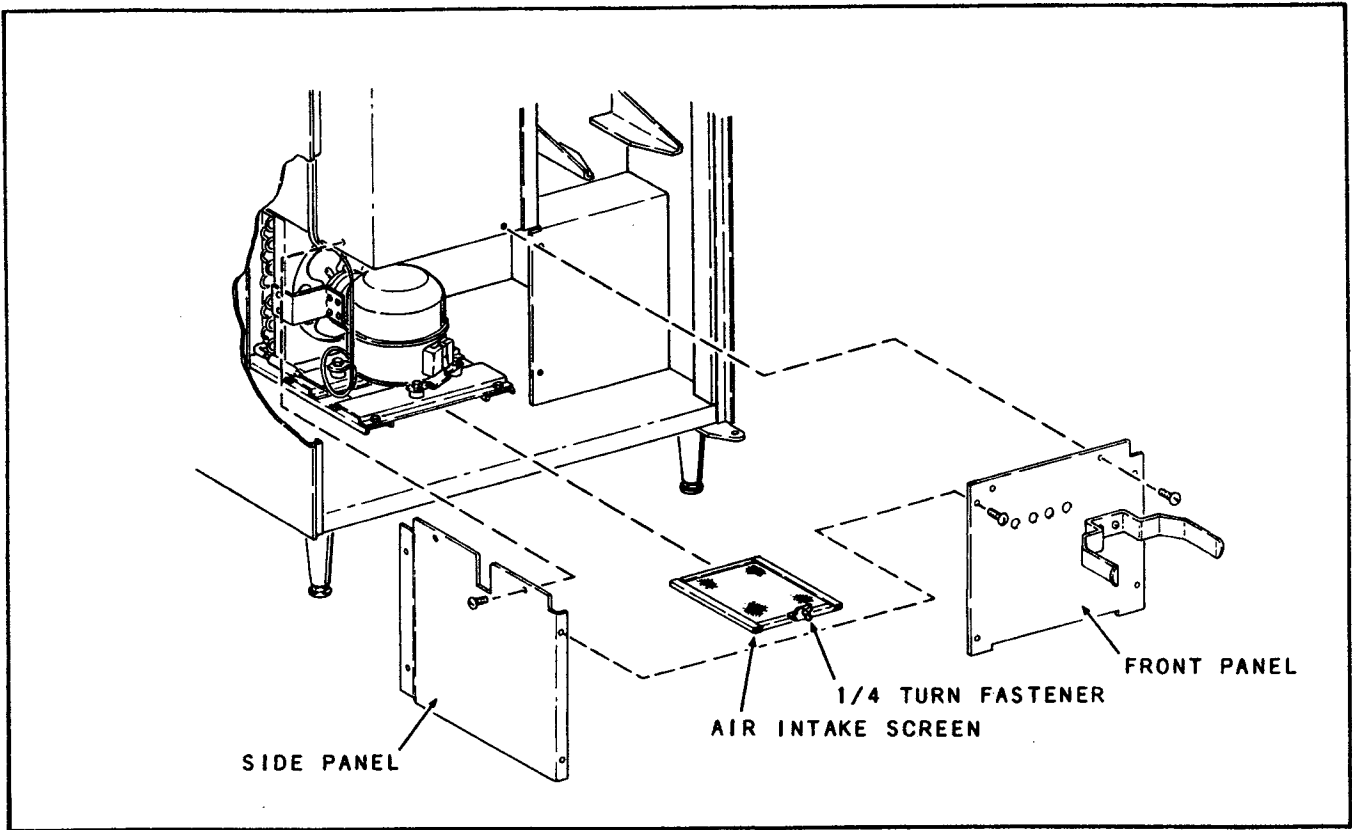

Figure 3-1. Access to Refrigeration Module
- B. Remove attaching Screws and then lift upward to remove the Refrigeration Module Side Panel from the Merchandiser. See Figure 3-1.
- C. Remove the two Screws attaching the left side of the Condenser Assembly to the Module Base. See Figure 3-1.
Follow this procedure when removing the Refrigeration Module from the front of the Merchandiser. See Figure 3-1.